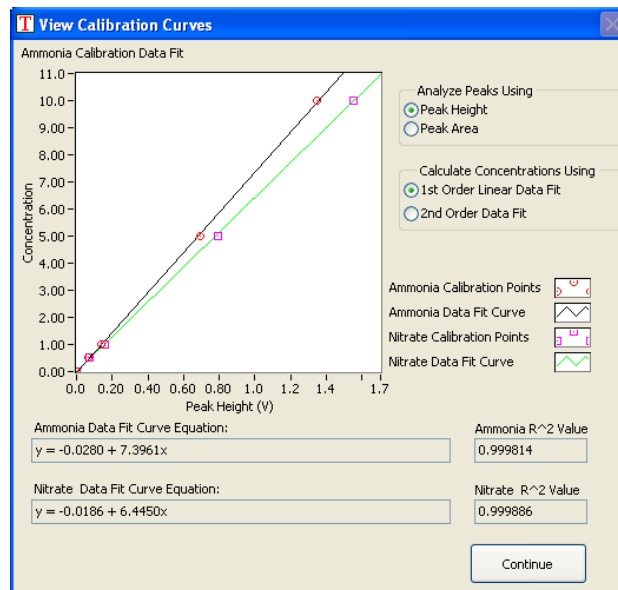

Figure 3-5: Calibration Curve Window.
6. You may toggle between a linear regression data fit or second order polynomial data fit (if three or more calibration points are collected). The equations and R^2 values for the data fit are also displayed. Click 'Continue' to return to the Saved Data screen. See figure 3-5.